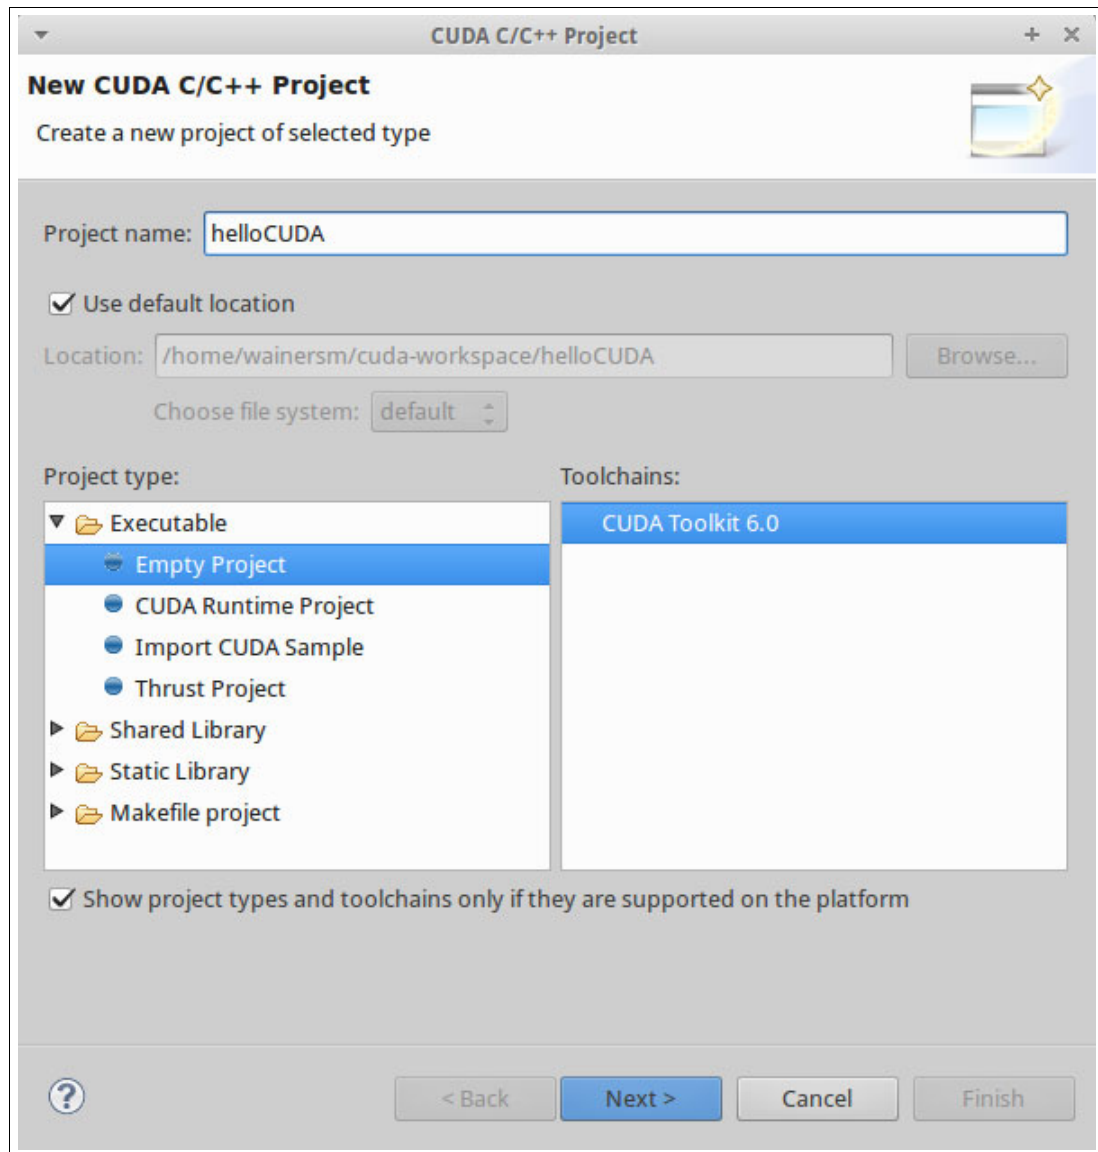

Figure 9 Nsight new CUDA C/C++ project window
1. At the menu bar, click **File** → **New** → **CUDA C/C++ Project**. The New Project window appears, as shown in Figure 9 on page 45.